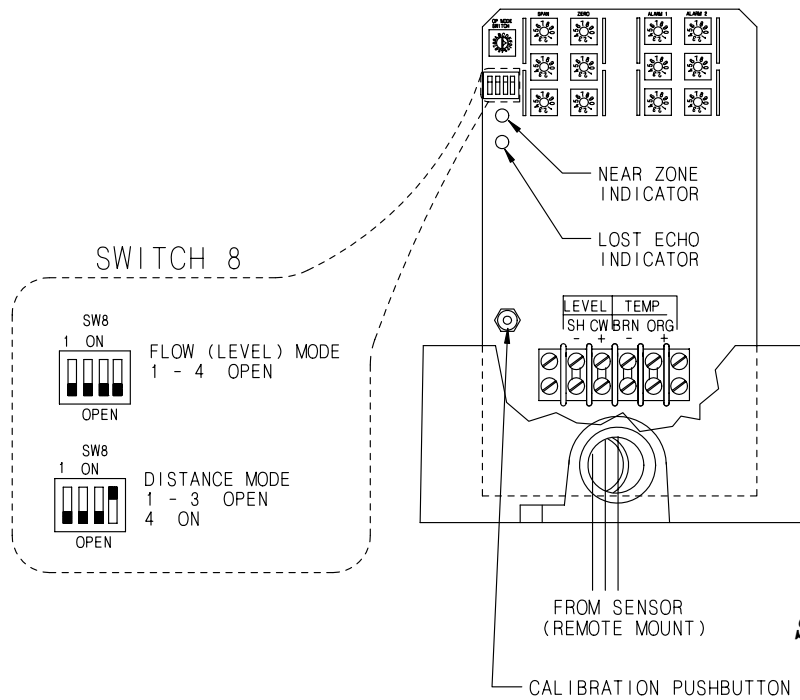

Figure 3-1
3.2 Indicators & Controls Refer to *Figures 3-1 and 3-2* for the location of indicators and controls.